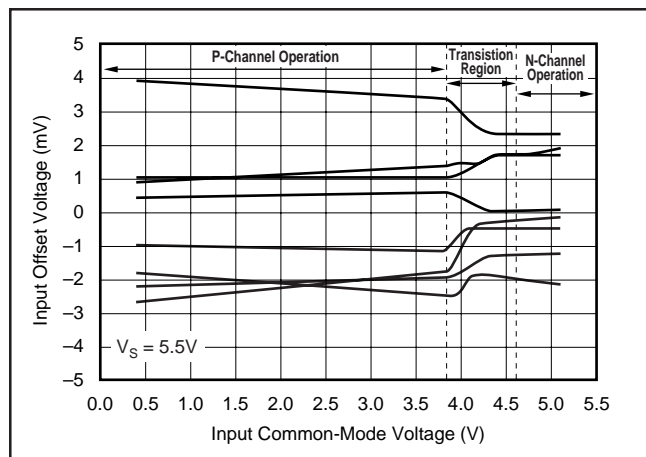
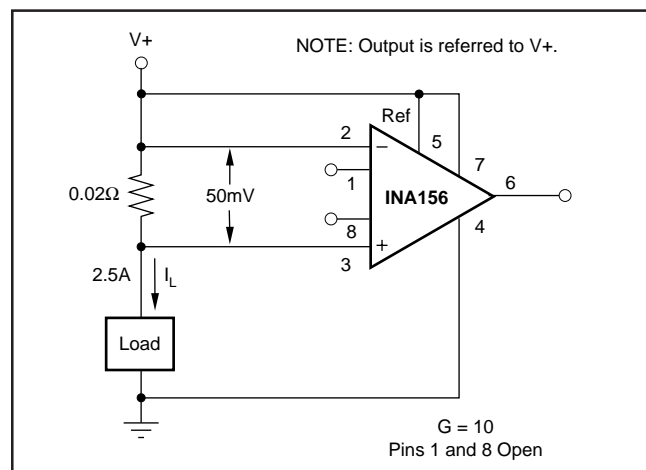

FIGURE 6. Input Offset Voltage Changes with Common-Mode Voltage.
FIGURE 7. Single-Supply, High-Side Current Monitor.
NOTES: (1) For further information, refer to typical performance curves on common-mode input range. (2) Operation beyond  $(V+) - 1.8V$  (max) results in reduced common-mode rejection. See discussion and Figure 6 in the text of this data sheet. (3) Does not include error and TCR of additional optional gain-setting resistor in series with  $R_G$ , if used.
The internal amplifiers have rail-to-rail input stages, achieved by using complementary n-channel and p-channel input pairs. The common-mode input voltage determines whether the p-channel or the n-channel input stage is operating. The transition between the input stages is gradual and occurs between  $(V+) - 1.8V$  to  $(V+) - 1V$ . Due to these characteristics, operating the INA156 with input voltages within the transition region of  $(V+) - 1.8V$  to  $(V+) - 0.8V$  results in a shift in input offset voltage, and reduced common-mode and power supply rejection performance. Typical patterns of the offset voltage change throughout the input common-mode range are illustrated in Figure 6. The INA156 can be operated below or above the transition region with excellent results. Figure 7 demonstrates the use of the INA156 in a single-supply, high-side current monitor. In this application, the INA156 is operated above the transition region.